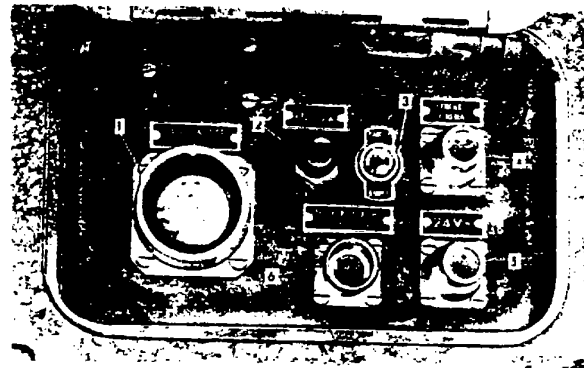

Figure 8. DX-44 projection unit door - controls and indicators.
b. The controls behind the lower door of the DX-44 projection unit are explained in table 4 and shown in figure 8.
Table 4. Projection unit, DX-44 Lower Door-Controls, Indicators, and Connectors (fig. 8)